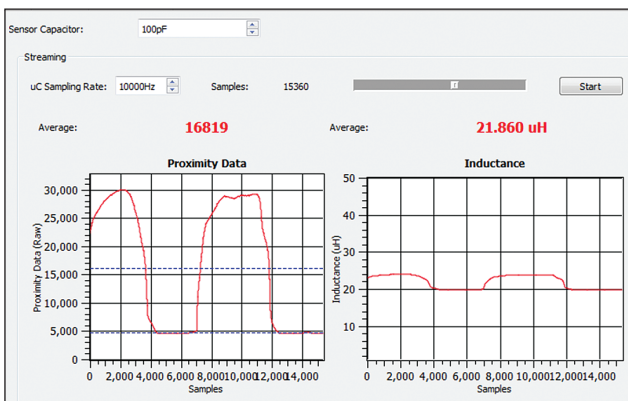

Fig.1 Example data capture
Note: on the streaming screen (Fig. 1), make sure to STOP data capture when making changes to register settings and START data capture to apply the changes
7. Move conductive target near to/far from coil, and observe LDC response (as in Fig. 1)